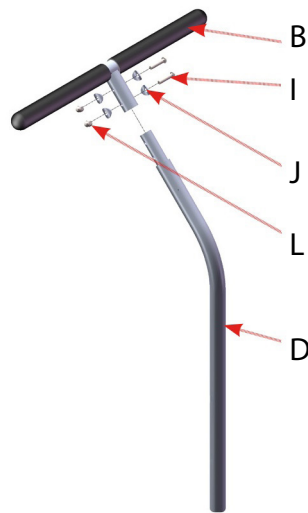

Fig. 11
To mount the bar (B) to the adjustable tube (D) use four curved washers (J), two cylinder head bolts (I) and two safety nuts (L) (fig. 11)